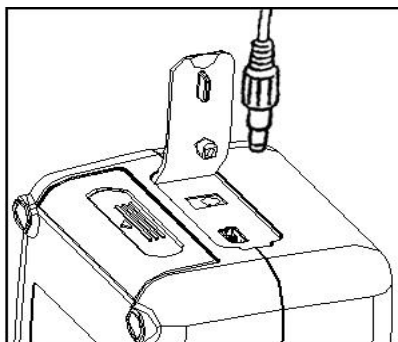

Figure 5. Power Adapter connection
1. First check and confirm if the Switch is on Out (O),
2. Plug the input cable of the power adapter as shown on Figure 5 into the DC connector.